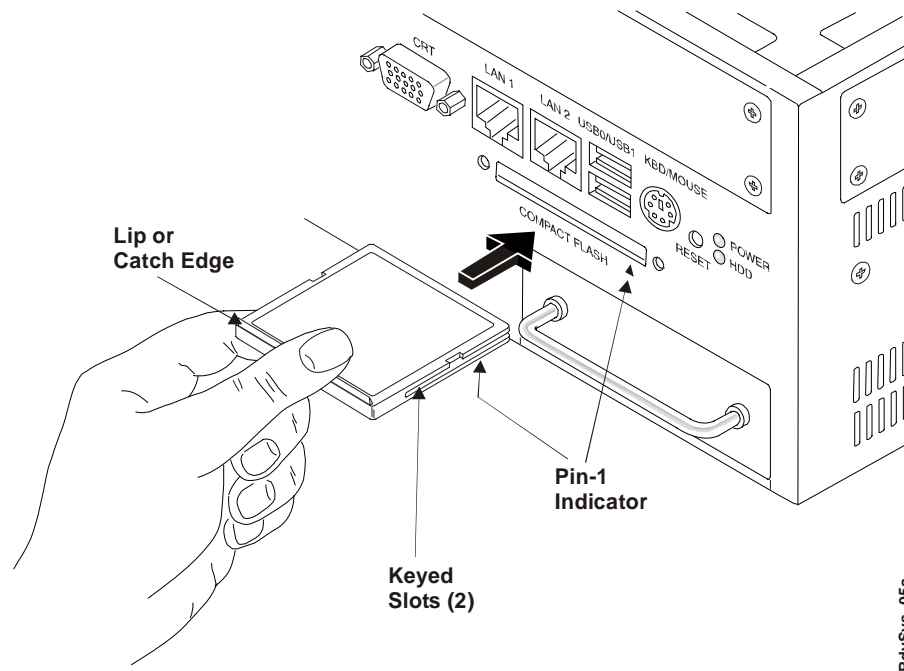

Figure 4-2. Installing the CompactFlash Card
7. Insert the CompactFlash card into the opening provided by matching the pin-1 orientation of the CompactFlash card with the arrowhead on the I/O panel. See Figure 4-2.
NOTE The keyed slots and lip (or catch edge) on the CompactFlash card are used to install into the socket in only one orientation. Pin-1 one should be down and to the right as shown in the Figure 4-2.
8. Push the CompactFlash card into the opening until it is firmly into the socket and mates with the pins. See Figure 4-2.